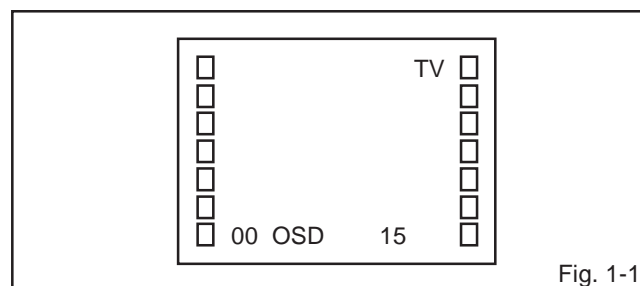

Fig. 1-1
Press the VOL. DOWN button on the set and the Channel button (9) on the remote control for more than 1 second to appear the adjustment mode on the screen as shown in **Fig. 1-1**.
3. Activate the adjustment mode display of **Fig. 1-1** and press the channel button (02) on the remote control to select "RF. AGC".